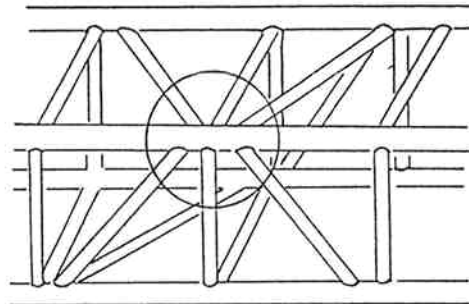

Fig. 2-3
- B: Number of repairable lacings, which are gathered to the chord (marked with ○ in Fig.2-3) and which cannot be used, of the two sides of the boom section.